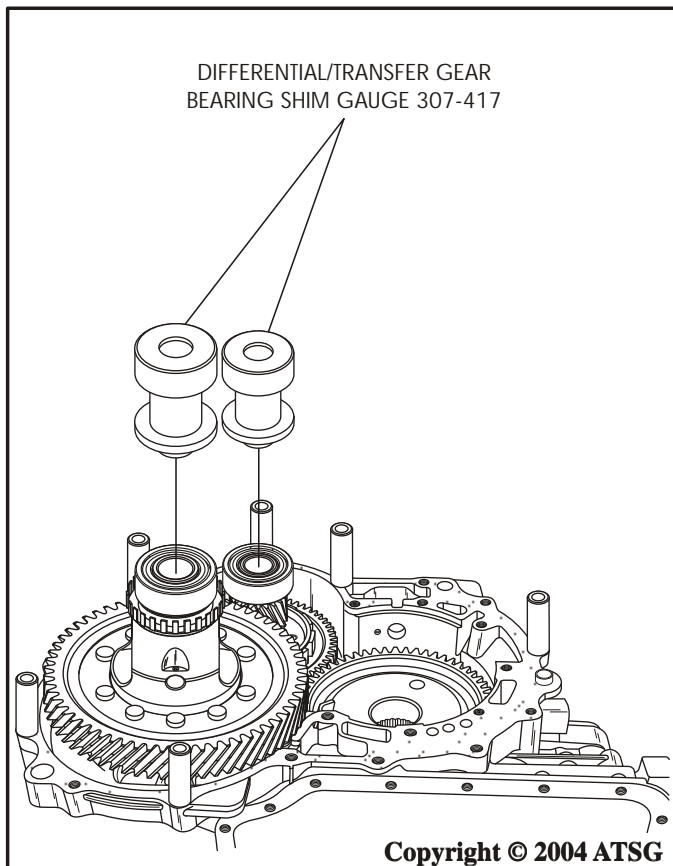

Figure 138
54. Install differential case bearing shim selection gauge from 307-417 on the differential case bearing, as shown in Figure 138.
55. Install the transfer shaft bearing shim selection gauge from (307-417) on the transfer shaft bearing, as shown in Figure 138.